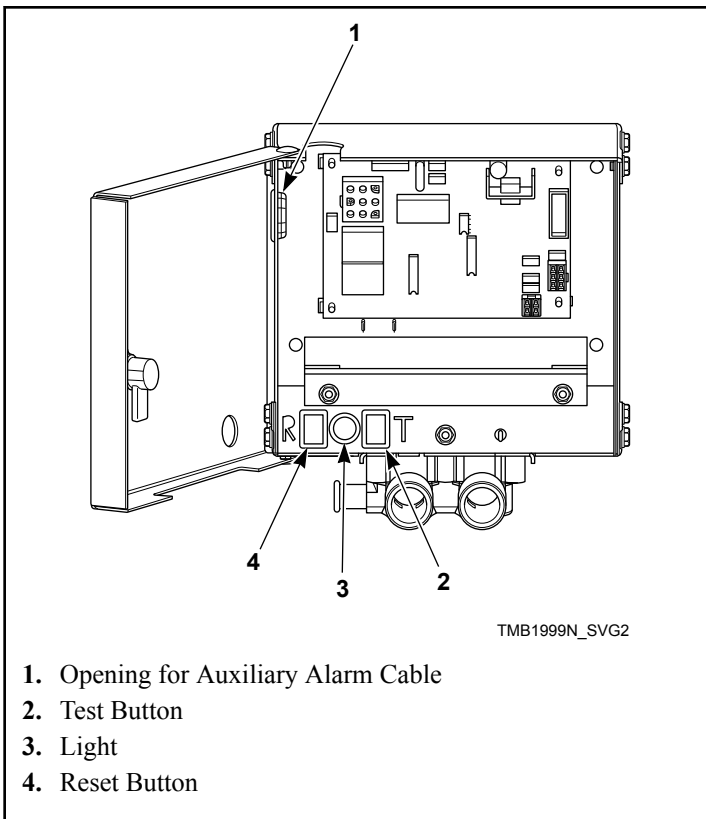
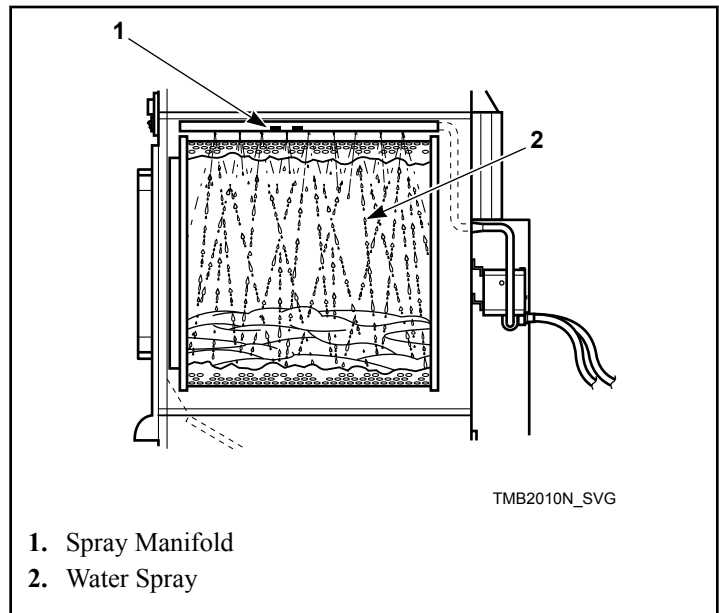

Figure 67
Figure 68
6. Press and hold the test button, verify the light is on, this should take approximately five seconds. Refer to *Figure 67*. After a one-second pause water should begin to spray into the cylinder.
7. After 15 seconds of water spray, press and hold the reset button until water spray is off and light is off. This should take approximately one second. Refer to *Figure 67* and *Figure 68*.